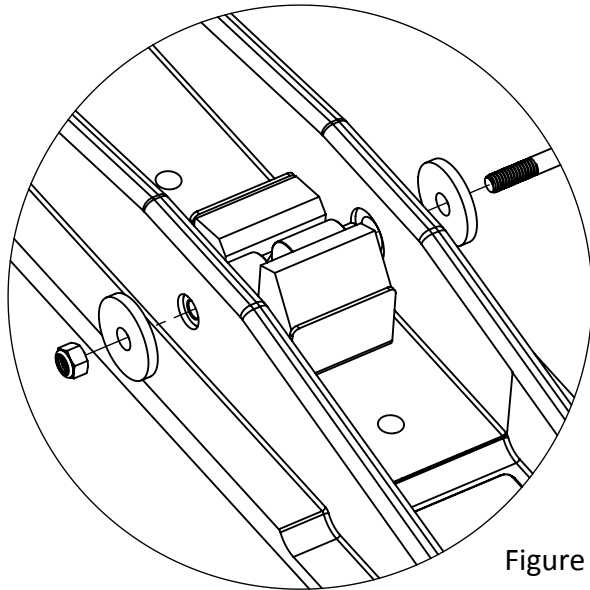

Figure 1
5. Place the two bushings into the inner saddle of the ski and push outward into the saddles, they will fit very tightly. (see Figure 1)